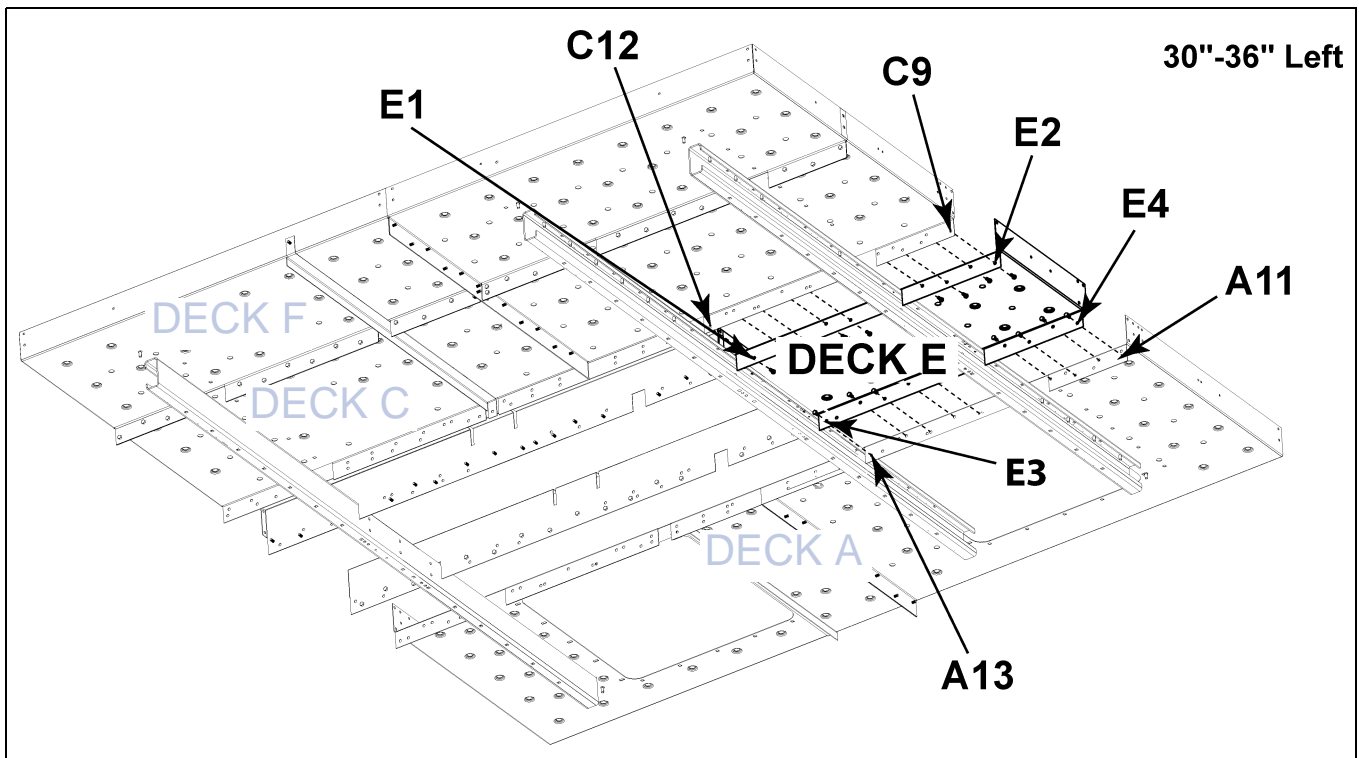

Figure 9P
1. Position Deck E between Deck A and Deck C. Note that Deck E will be connected to two (2) channels. (See Figure 9P on Page 78.)
4. Connect the Deck E kick plate flanges to toe boards and flanges of Deck A and Deck C using 3/8" x 3/4" bolts (S-7105) and 3/8" nuts (S-10028). (See Figure 9P on Page 78.)
5. Align and connect Deck E to Deck A and Deck C using 3/8" x 1" bolts (S-7469) with flange nuts (S-10028). (See Figure 9P on Page 78.)